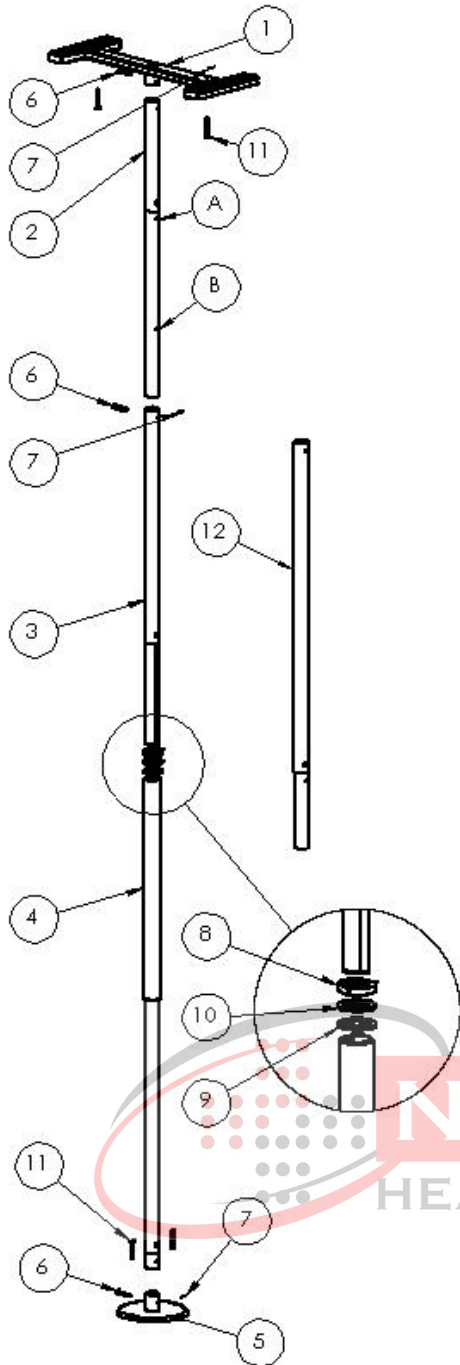
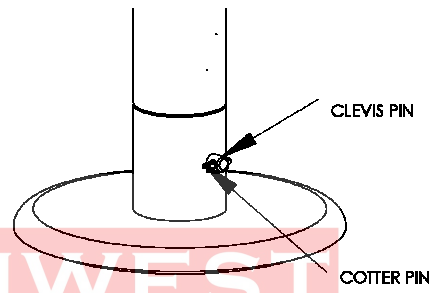

FIGURE 1
FIGURE 3
1. Take all parts out of the box and lay them on a flat surface as shown in Figure 1. As noted above, ITEM-12 is NOT included but represents an extension for a 10 foot ceiling.
4. The Extension Tube (ITEM-2) has 2 sets of holes marked "A" and "B" in Figure 1. The set of holes marked "A" are for an 8 foot ceiling. The set of holes marked "B" are for a 9 foot ceiling.
6. Attach ITEM-5 to ITEM-4, as shown in Figure 1, by aligning the holes in ITEM-4 and ITEM-5 and inserting the Clevis Pin and Cotter Pin as previously done in Step 2, and as shown in Figure 3.
NOTE: Make sure the Adjustment Nut (ITEM-8), the Plastic Washer (ITEM-10), and the Metal Washer (ITEM-9) are in place in the order as shown in Figure 1 before inserting ITEM-3 into ITEM-4.